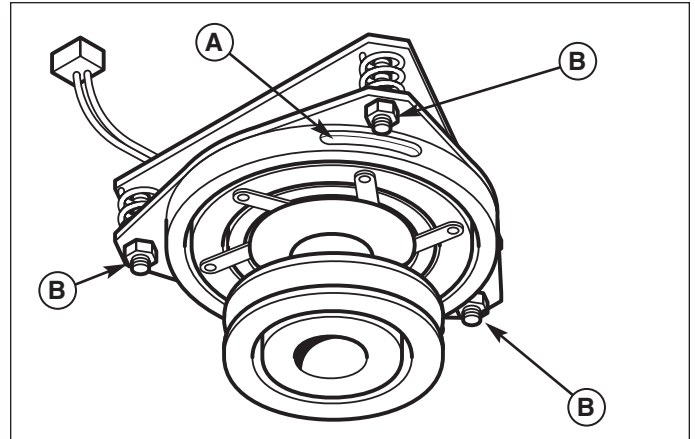

Figure 32. PTO Clutch Adjustment
2. See Figure 32. Note the position of the 3 adjustment windows (A) in the side of the brake plate and the nylock adjustment nuts (B).
4. Alternately tighten the adjustment nuts (B, Figure 32) until the rotor face and armature face just contacts the gauge.